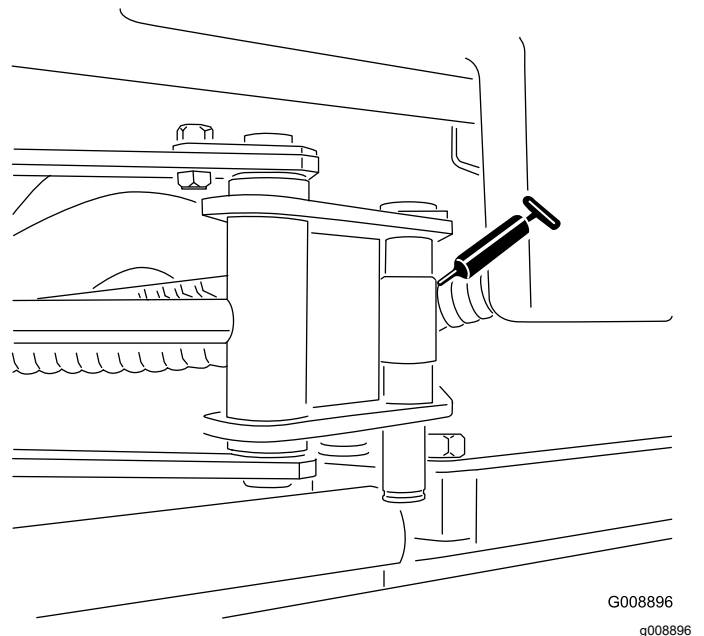

Figure 34
- 2 sidewinder-cylinder ends (Figure 34)